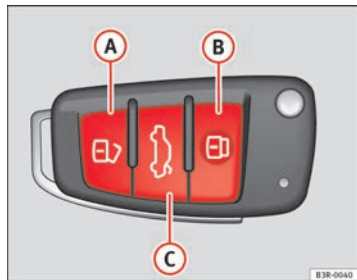

Fig. 78 Remote control key: Control buttons
- Press button **A** ⇒ fig. 78 for about 1 second.